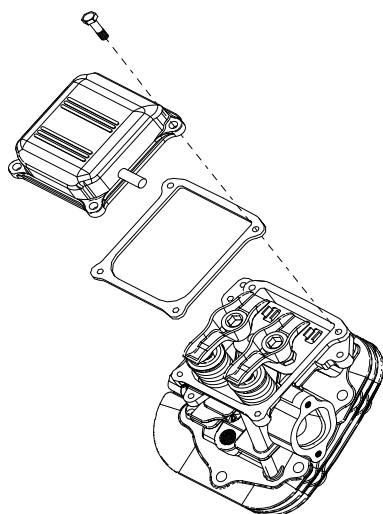

Figure 13-17. Install Valve Covers and Gaskets
5. See Figure 13-17. Install valve covers with new gaskets. Tighten bolts to 60 **in-lb** (6.8 Nm) torque.